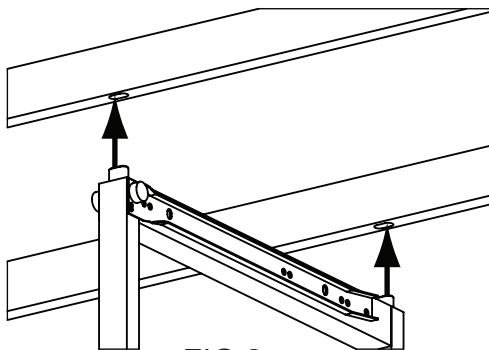

FIG 2
2b. INSTALL (2) BOTTOM SUPPORT RAILS (PART R) BY INSERTING THE TABS ON THE BOTTOM SUPPORT RAILS INTO THE SIDE PANEL AND INSERTING THE TABS ON THE CENTER FRAME INTO THE BOTTOM SUPPORT RAILS. SEE FIGURE 2. FINISHED SIDE MUST FACE FRONT.